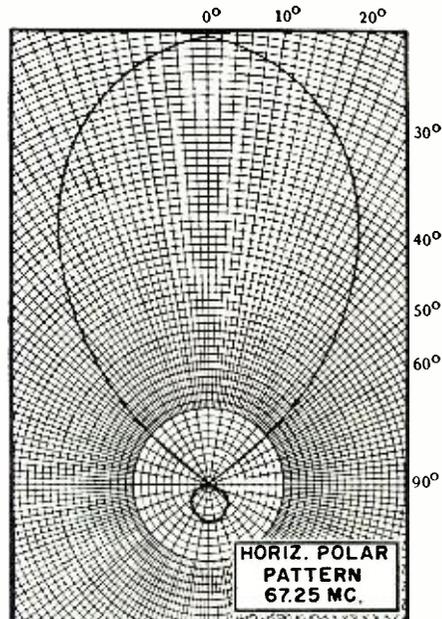

Fig. 5. Horizontal polar pattern of a particular antenna showing a strong front lobe, or area of reception, and a relatively weak one from behind the antenna.
This is illustrated in Fig. 4. This pattern was taken from a spectrum analyzer where the right hand "pip" is the suppressed carrier, the largest "pip" just to the carrier's left is the *lower* sideband signal and the small signal to the extreme left is the second harmonic of the 1000 cps audio tone fed into the SSB transmitter. Note that the vertical scale is logarithmic and reads directly in db. If a complex audio waveform, such as that represented by the human voice, is fed into the transmitter, there will be many frequencies present at the transmitter output, each of which represents its corresponding audio-frequency input. For the typical male voice the maximum energy is concentrated in the lower audio frequencies, below 800 cycles, with a decreasing amount of energy in the higher audio frequencies up to approximately 3000 or 4000 cps. Such a signal is shown in Fig. 5. This spectrum analysis was made on an actual single-sideband transmitter and shows that all the intelligence lies to one side of the carrier frequency. It would appear that we have successfully confined the intelligence transmitted by the radiotelephone transmitter to a spectrum which is one-half that used by the previously considered double-sideband transmitter.
Fig. 5. Chart showing envelope of a single sideband signal transmitting a sustained vowel sound. The suppressed carrier is at 3000 kc., the lower sideband extends lower in frequency to approximately 2997 kc. Note that the maximum energy of a male voice is in the lower audio frequencies which are nearest the carrier. See text.
**Directivity.** This characteristic describes the antenna signal sensitivity from different directions. A simple dipole has a horizontal directivity pattern that can be described as two circles, one on each side of the antenna. When a reflector is added, the reception from the rear is greatly reduced, as shown in Fig. 5. The arrangement of various directors and reflectors commonly used in yagi and similar types of antennas serves not only to reduce reception from the rear, but also narrows the beam greatly. This reduces reception of unwanted multipath signals which may cause ghosts.